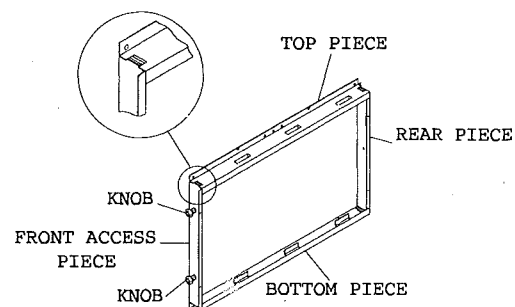

Figure 2.1
4. Assemble the filter rack back piece (15 1/2" for side return on all size units) to the filter rack bottom piece as shown in Figure 2.1 making sure that one of the 1/2" flanges is located to the bottom outside of the assembly and the locking tabs are engaged on the assembly. **Do not** secure with screws at this time.
5. Assemble the filter rack top piece as shown in Figure 2.1 making sure that the slotted tabs are facing downward and the locking tabs are engaged on the assembly. Do not secure with screws at this time.
6. Attach the knobs to the front access piece using the holes provided on the part and assemble the filter rack access/front piece (15 1/2") to the assembly as shown in Figure 2.1 ensuring that one of the 1/2" flanges is to the bottom inside of the assembly and the locking tabs are engaged on the assembly.